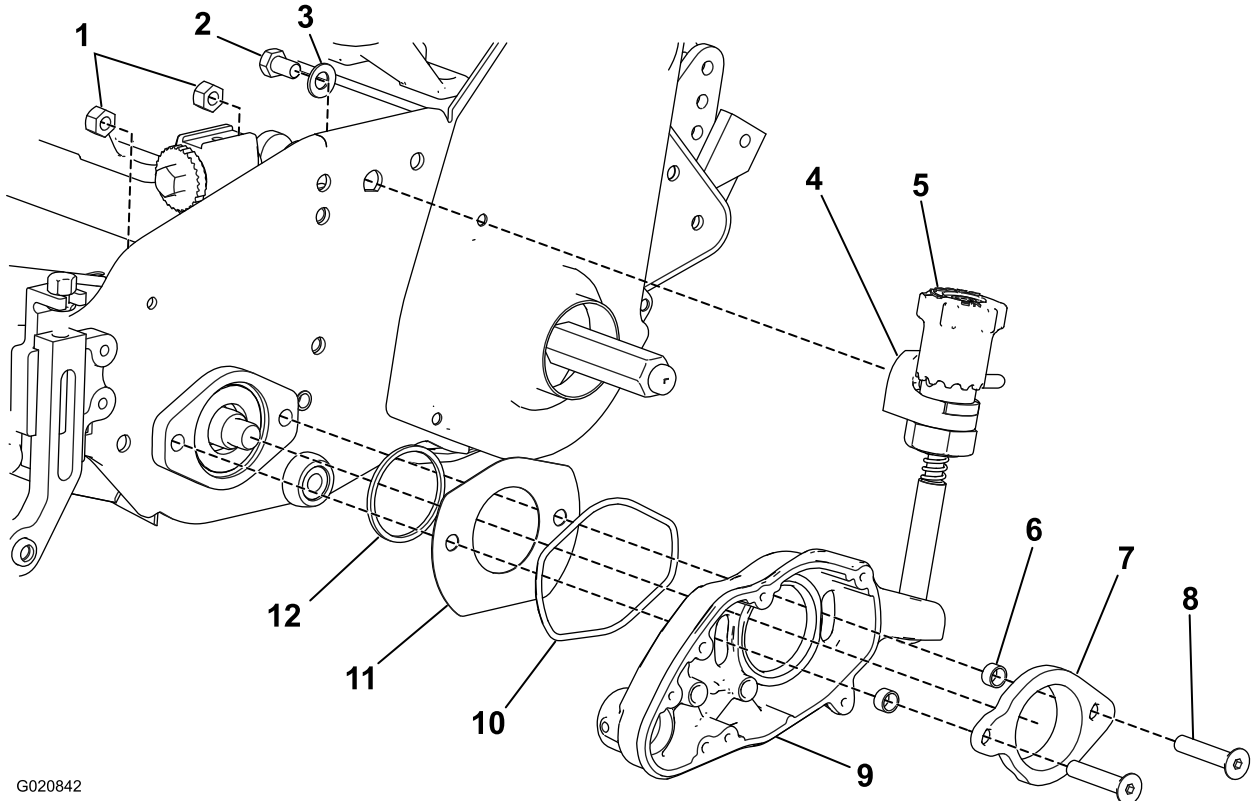
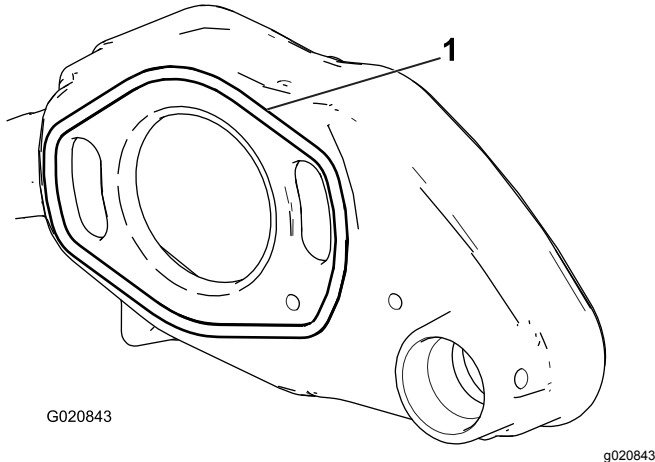
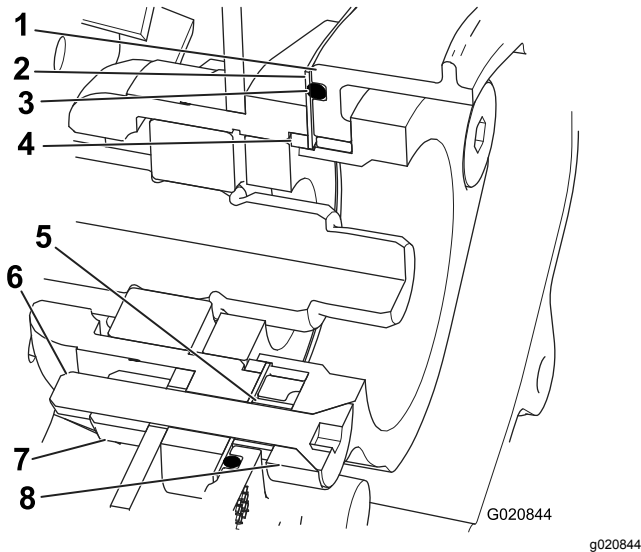

Figure 6
Figure 7
Figure 8
5. Remove the curved washer and the bolt (3/8 x 5/8 inch) from the adjustment-knob mounting block (**Figure 6**).
6. Install the O-ring into the back of the groomer housing (Figure 6 and Figure 7) and lightly lubricate the exposed surfaces of the O-ring with synthetic grease (supplied with the kit).
7. Insert the adapter ring into the reel bearing housing (Figure 6 and Figure 8).
8. Insert the 2 flat-head screws (3/8 x 2 inch) through the bearing adapter and position the spacers on the ends of the screws (Figure 6 and Figure 8).
10. Slide the bearing adapter through the bronze bushing and the screws through the slots in the groomer housing assembly (Figure 6 and Figure 8).
11. Place the slot cover over the screws and up against the lubricated O-ring (Figure 6).
14. Torque the locknuts to 31 to 37 N·m (23 to 27 ft-lb) (Figure 6 and Figure 8).
15. Mount the adjustment knob mounting block to the left side plate with the bolt (3/8 x 5/8 inch) and curved washer you removed previously (Figure 6).